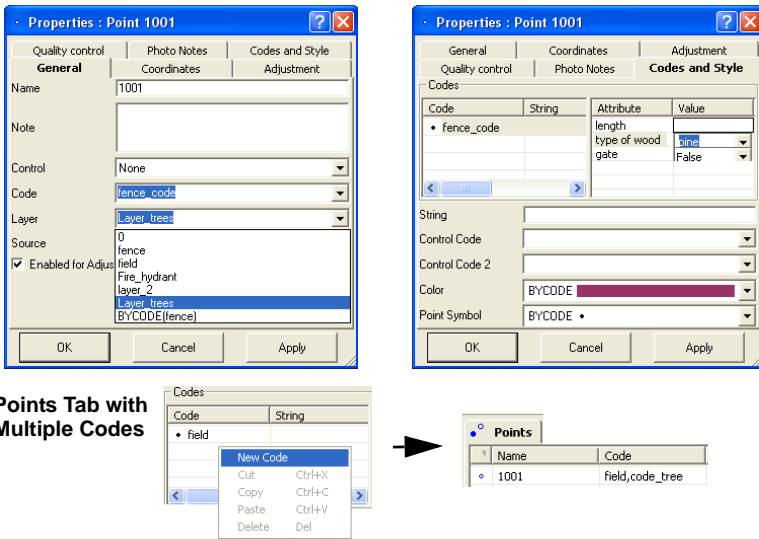

Figure 5-75. Add Code to Point
2. Using the *General* tab, select a code and a layer (Figure 5-75 on page 5-56). The plotting style for this code will be taken from the layer parameters.
4. To add a code to the point, right-click in the left panel and click **New Code**. Select the code from the drop-down list and click outside the cell or press **Enter** (Figure 5-75 on page 5-56). More than one code can be added to the point; codes will display in the *Points* tab.